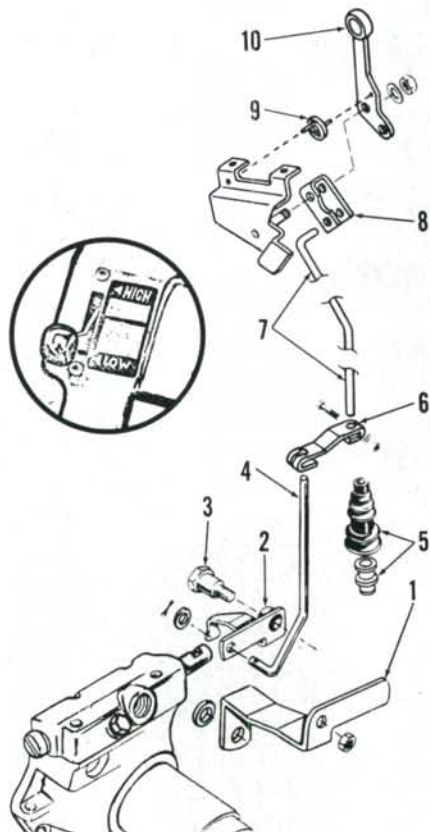

Fig. 202—Exploded view of Multi-Power clutch control linkage.
The control valve spool must move fully to high and low positions as Multi-Power control lever (10—Fig. 202) is moved to top and bottom of control slot. To adjust shift linkage, move hand lever toward "HIGH" position until lever is within 1.5 mm (1/16 inch) from top of slot. Loosen clamp bolt securing link (6) to lower rod (4), then push lower control rod (4) downward as far as it will go. Retighten clamp bolt to lock the adjustment.